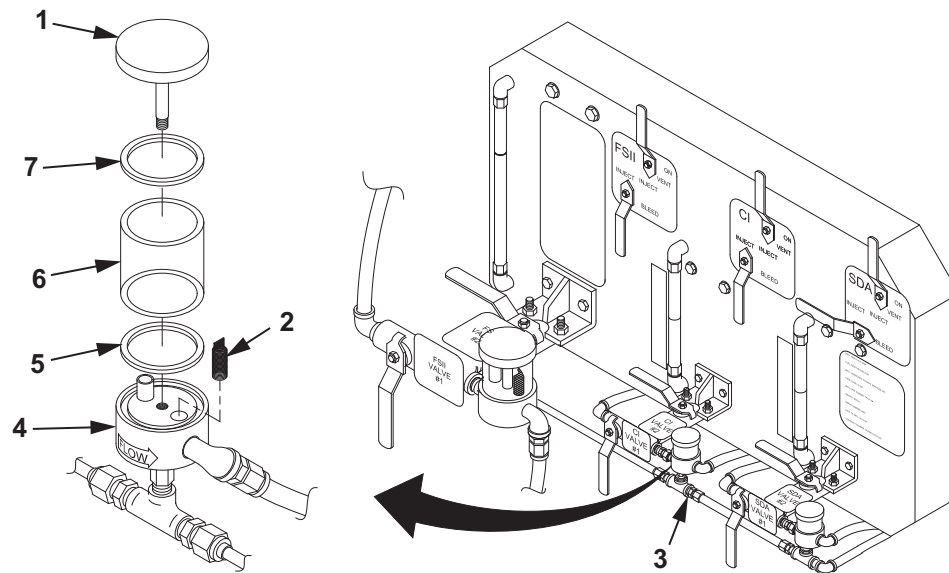

Figure 1. CI Sight Flow Indicator Maintenance.
1. Install filter element (Figure 1, Item 2) on body (Figure 1, Item 4).
2. Apply thin coat of petrolatum to new O-rings (Figure 1, Item 7, 5).
3. Install new O-ring (Figure 1, Item 5) on body (Figure 1, Item 4) of sight flow indicator (Figure 1, Item 3).
4. Install glass (Figure 1, Item 6) on body (Figure 1, Item 4).
5. Install new O-ring (Figure 1, Item 7) on cap (Figure 1, Item 1).
6. Install cap (Figure 1, Item 1) on body (Figure 1, Item 4) of sight flow indicator (Figure 1, Item 3). Hand tighten.